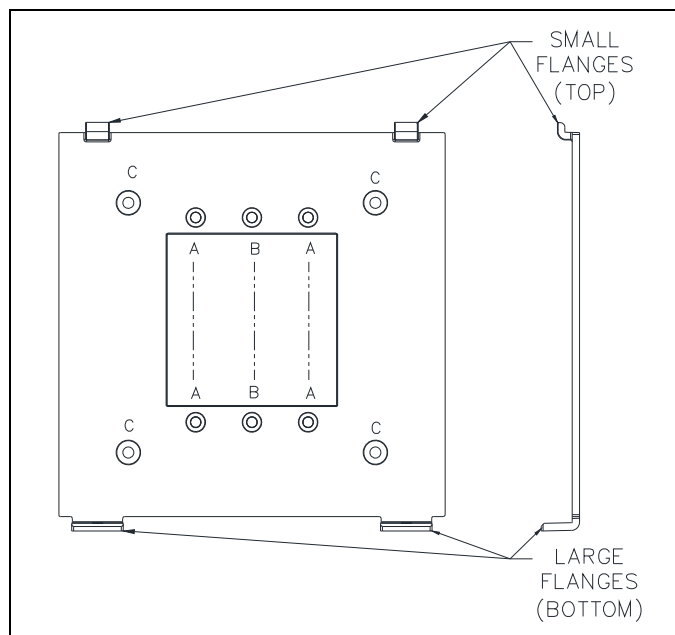

Figure 3. Smart Controller Wall-Mount Bracket
1. Orient the wall-mount bracket (see Figure 3) over the electrical box with the small flanges on top and the large flanges on the bottom.
2. Mark the locations (C) for the four wall anchors or toggle bolts (not included) and the area in the center of the bracket where the cable(s) come through the wall using the support bracket as a template (see Figure 3).